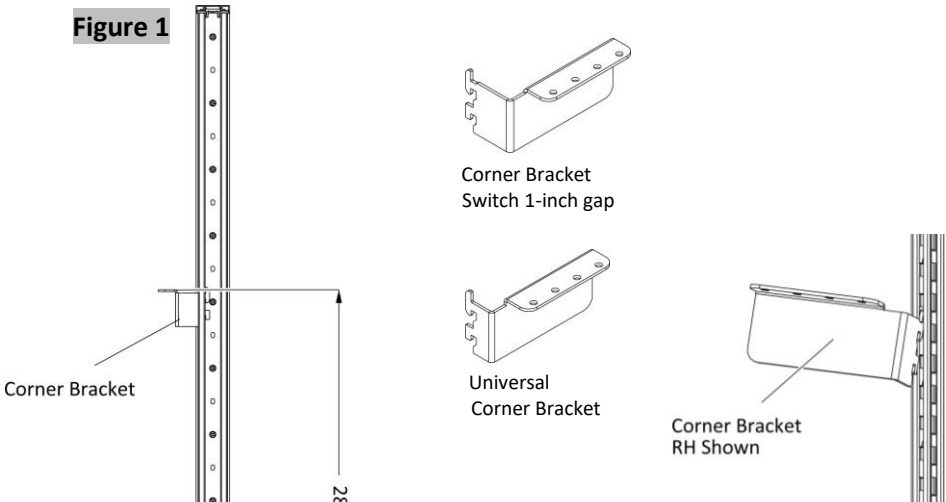

Figure 2
3. Insert the corner bracket support by angling it at 30 degrees; place the support hook into the slotted frame channel, release it down and the support will be engaged, (Figure 2).